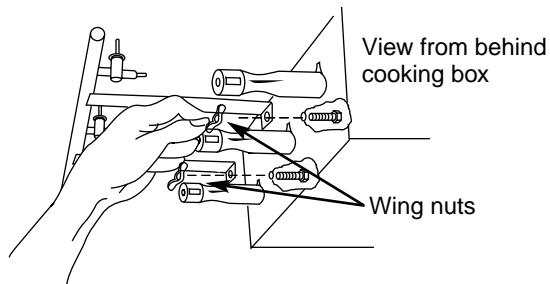

Figure 12
- e) Remove the manifold bracket and unscrew the two wing nuts that hold the manifold to the cooking box. Pull the manifold and valve assembly out of the burners and carefully set it down. Figure 12.